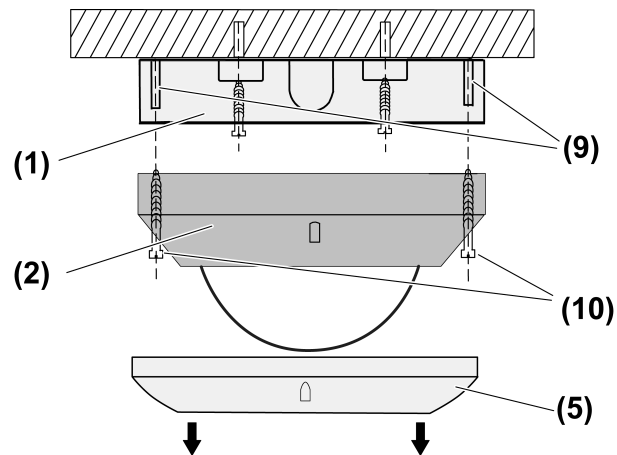

Figure 7: Mounting
- (1) Connection box
- (2) Sensor top
- (5) Decor ring
- (9) Fastening pins
- (10) Screws
- Pull off decor ring (5) (Figure 7).
- Loosen screws (10) (Figure 7).
- i** In the case of single devices, a 2-wire extension can be used as an alternative to the installation button (14).
- Screw the sensor top (2) to connection box (1) with screws (10) and mounting pins (9) (Figure 7).